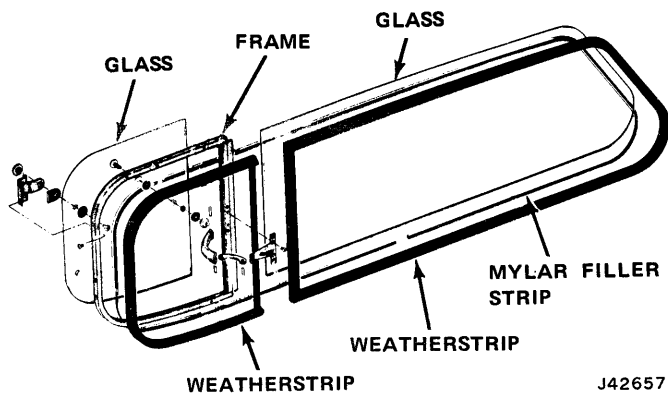

Fig. 15-5 Rear Quarter Window—Cherokee
(1) Remove mylar insert from weatherstrip.
(2) Pull weatherstrip back and remove window frame-to-body screws from inside vehicle (fig. 15-5).
- (1) Remove handle-to-frame attaching screws (fig. 15-5).
- (2) Remove glass hinge screws and washers.
- (3) Remove glass.